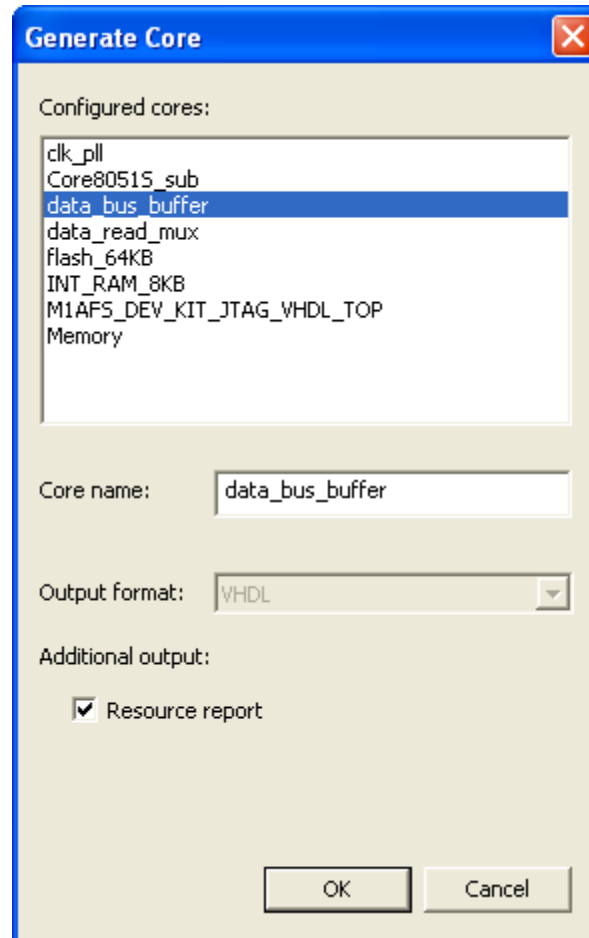

Figure 2-20 · Name Bidirectional Buffer
- Name this component `data_bus_buffer` (Figure 2-20). Click OK.